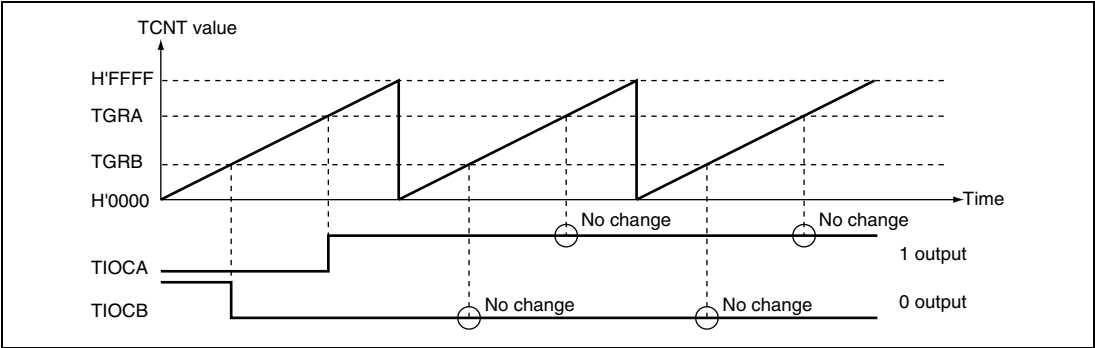

Figure 9.10 Example of 0 Output/1 Output Operation
2. Examples of waveform output operation Figure 9.10 shows an example of 0 output/1 output. In this example TCNT has been designated as a free-running counter, and settings have been made so that 1 is output by compare match A, and 0 is output by compare match B. When the set level and the pin level coincide, the pin level does not change.